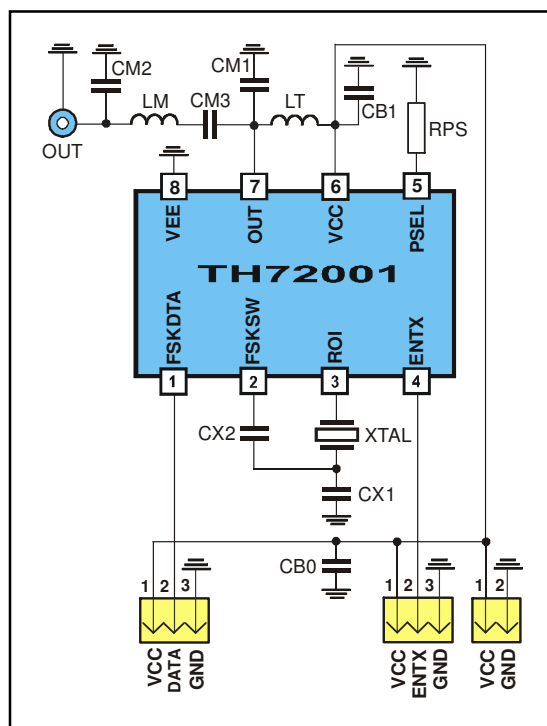

Fig. 18: Test circuit for FSK with 50 Ω matching network
typical values at $T_A = 23\text{ }^{\circ}\text{C}$ and $V_{CC} = 3\text{ V}$; test circuit shown in Fig. 18, $f_c = 315\text{ MHz}$
- Data according to test circuit in Fig. 18
6.1 Test circuit component list to Fig. 18